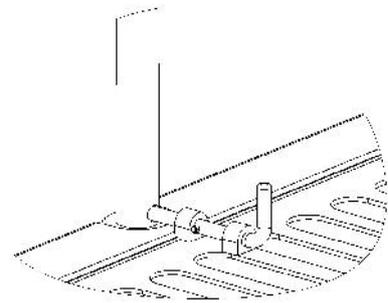

Fig. 1
Assemble the tilting handle (A) as shown on Fig. 1